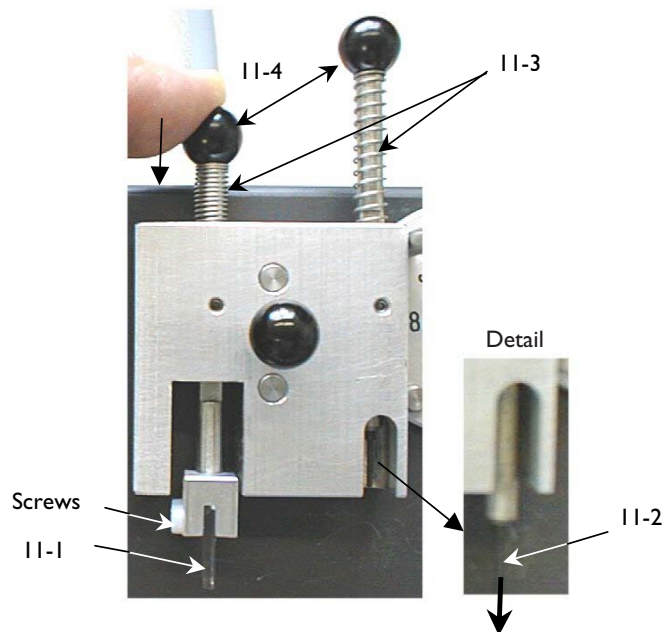

FIGURE 6-2 Replacement Neutral density filter glass
- Loosen the 8 Allen screws (131) and remove the bottom cover plate (13).
- Remove the 2 retaining rings (111).
- Assemble in reverse order by greasing the two guiding pins first with a thin layer Molykote G-N plus. If necessary remove pollution or old grease first out of the two sliding bearings by using a Q-tip, moistened with isopropanol. Greasing and cleaning are shown in Figure 6-2.
References as shown in figure 6-2 and 6-6.